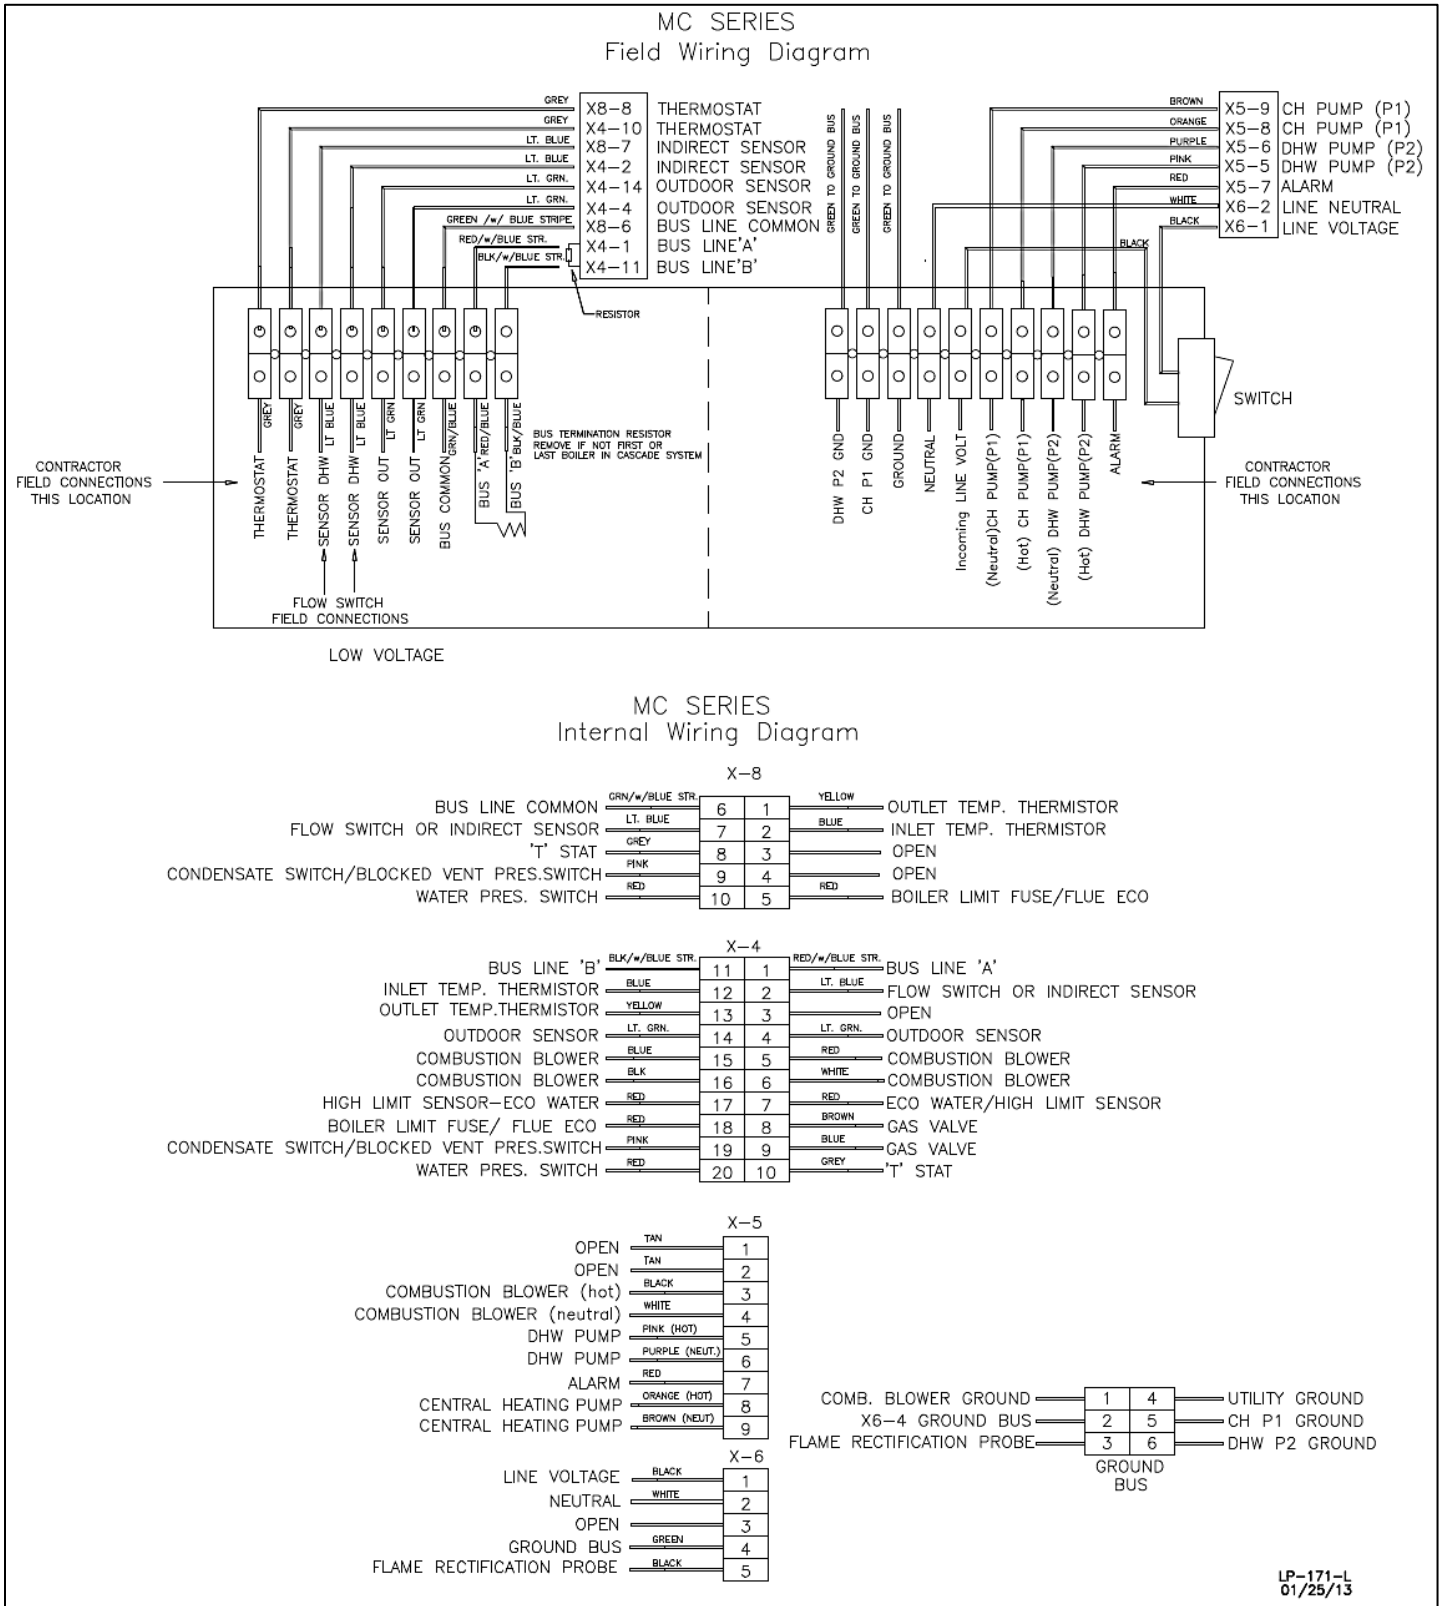

Figure 31 – NOTE: A resistor is provided between Bus Lines A and B. DO NOT REMOVE THIS RESISTOR! DOING SO WILL EFFECT HEATER OPERATION AND VOID WARRANTY!
1. Connect 120 VAC power wiring to the line voltage terminal strip located inside the electric junction box, as shown in Figure 31.
1. Take the 5/16" flexible clear tube (rated for maximum temperature of 120°F) provided with the heater and place it over the barbed nipple on the manual air vent as shown in Fig. 31.
3. Turn the manual air vent to the open position as shown in Fig. 31. Air and water should drain freely from the system.
9. While the pump is running as described above, open the manual air vent on the front of the heat exchanger as shown in Fig. 31 to further assist in removing air from the system.
10. When all air is removed and water runs freely from the end of the hose, return air vent to the closed position shown in Fig. 31. Cut the tie wrap and remove the tube. Please make sure warning tag is left in place. Stop the pump from running by pressing **[S1]** and **[S2]** together.